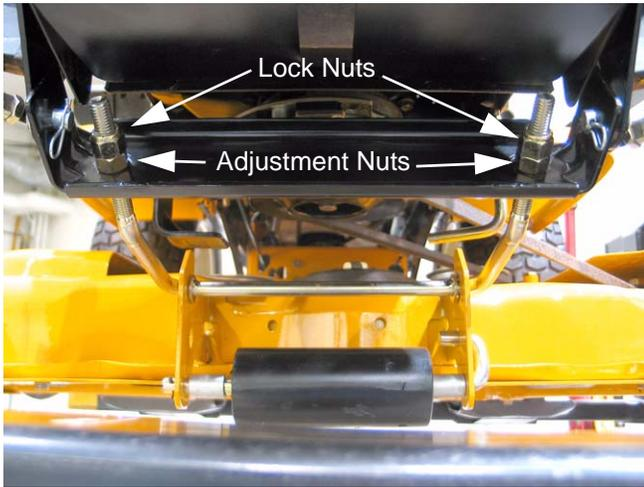

Figure 14.11
14.12. Locate both adjustment nuts on the front side of the deck stabilizer bracket. See Figure 14.11.